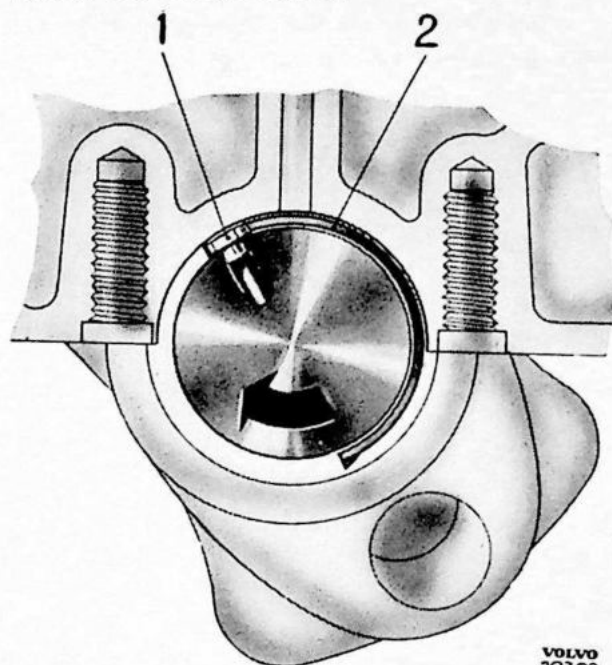

Fig. 22. Removing a main bearing shell.
Remove the nuts from the main bearing bolts and then remove the caps and the lower halves of the main bearings. The upper bearing shells are removed by inserting a pin (1, Fig. 22) in the oil channel and then turning the crankshaft in its normal direction of rotation. The bearing shells (2) then move round with the crankshaft and can be taken out. Check the bearing journals with the help of an indicator, the point of which is touching the journal and then rotate the shaft. If out-of-roundness is more than 0.05 mm (0.002") then the crankshaft must be removed and reground.